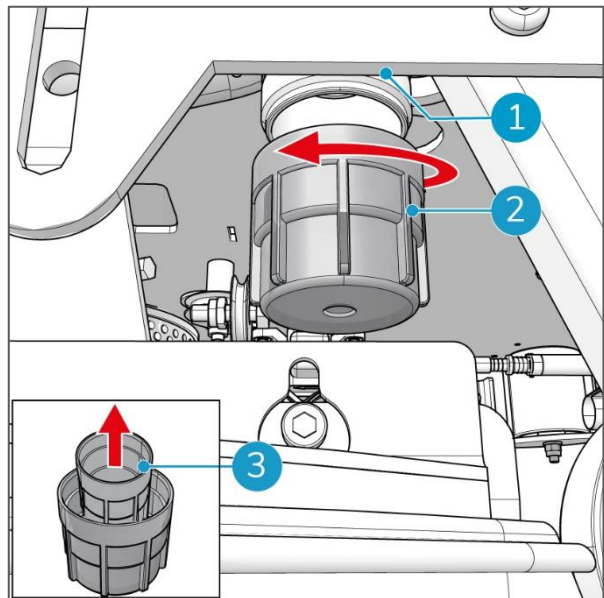

Figure 74
2. The water filter is positioned under the right front side of the CO-BOTIC 65™ (Figure 74, pos 1).
3. Turn the cover of the water filter (Figure 74, pos 2) anti-clockwise to remove it. The water filter has an integrated valve that avoids water running when the filter is open.
4. Remove the water filter (Figure 74, pos 3) from the cover.